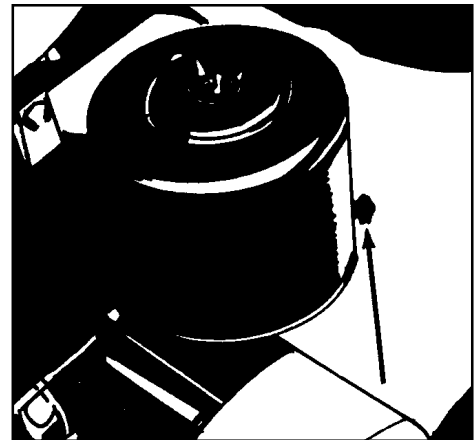

Figure 4
3. If the engine has not run for a period of time, move the choke lever to the second detent toward the "Arrow" mark. See figure 4.